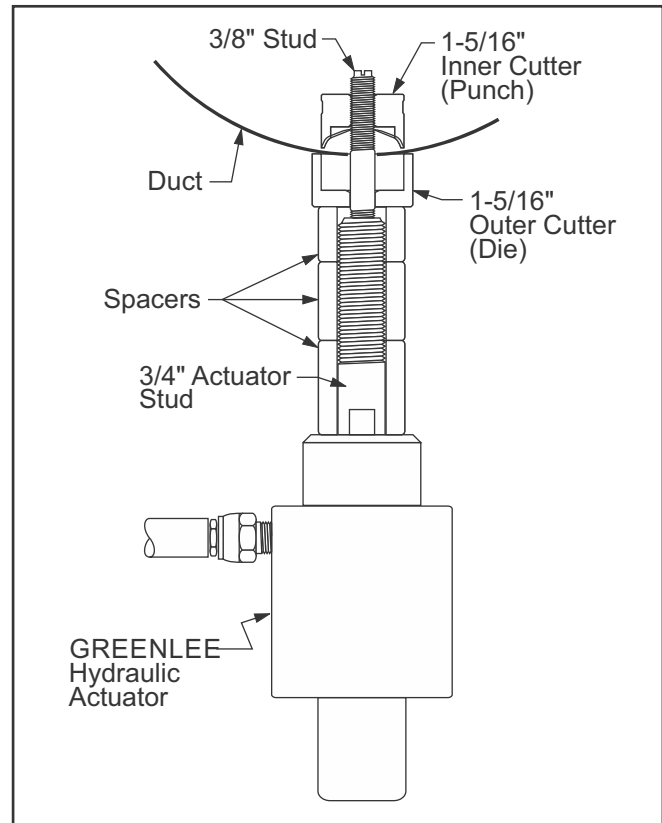

Fig. 35: 1-5/16" Hydraulic Punch Configuration
2. 1-5/16" Punch: From the Hydraulic punch kit thread the 3/8" stud into end of 3/4" draw stud of the Greenlee hydraulic actuator. Slide the three spacers onto the 3/4" actuator draw stud. Slide the 1-5/16" die onto the 3/8" stud with the open end of the die facing away from the actuator. Insert the 3/8" stud through the pilot hole in the duct. From inside the duct thread the matching 1-5/16" punch onto the 3/8" stud with the cutting surfaces of the punch toward the duct. Continue threading the punch by hand until the die, duct and punch are snug. Operate the hydraulic actuator to draw the punch through the duct material. Remove the punch, die and 3/8" stud. (Fig. 35)